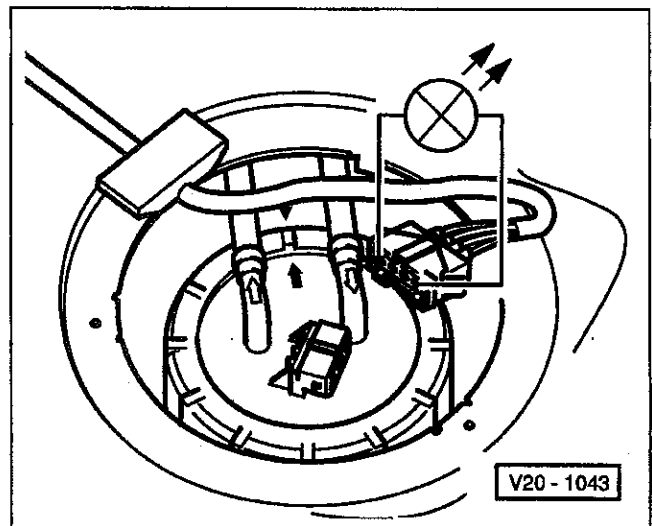

Fig. 4. Voltage supply to fuel pump being checked at outer terminals in connector.
6. If the pump does not run as described in step 4, leave the jumper wire connected and disconnect the harness connector from the fuel pump. Check for voltage at the pump harness connector as shown in Fig. 4.